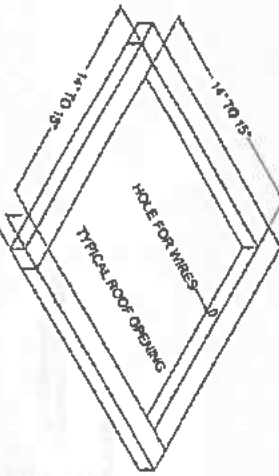

FIGURE 1
3. Examine the roof opening. If the opening is smaller than 14" x 14", the opening must be enlarged. If the opening exceeds 15" x 15", a mounting frame must be field fabricated to reduce the opening size (See Figure 1).
B. If a roof vent opening is not used, a new opening (See Figure 1) will have to be cut into the vehicle roof. A matching opening will also have to be cut into the interior vehicle ceiling. Be careful when cutting the ceiling opening. If the ceiling opening is carpentered, snagging could occur. After the opening in the roof and interior ceiling are the correct size, a framed support structure must be provided between exterior roof top and interior ceiling. The reinforced framed structure must provide the following guidelines:
Aircel's 47000 series requires that the spacing from the vehicle roof top to the interior ceiling be no less than 1". A typical support frame is shown in Figure 1. The frame must provide an opening to allow passage for the power supply wiring. Route the supply wiring through the frame at the same time the support frame is being installed.